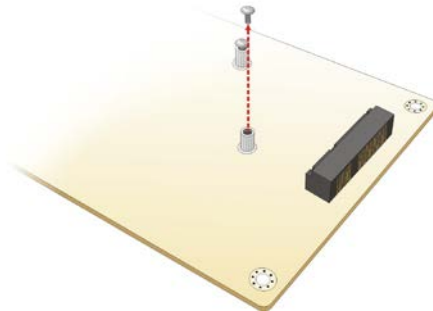

Figure 4-6: Removing the Retention Screw
Step 2: Remove the retention screw. Remove the retention screw as shown in **Figure 4-6**.